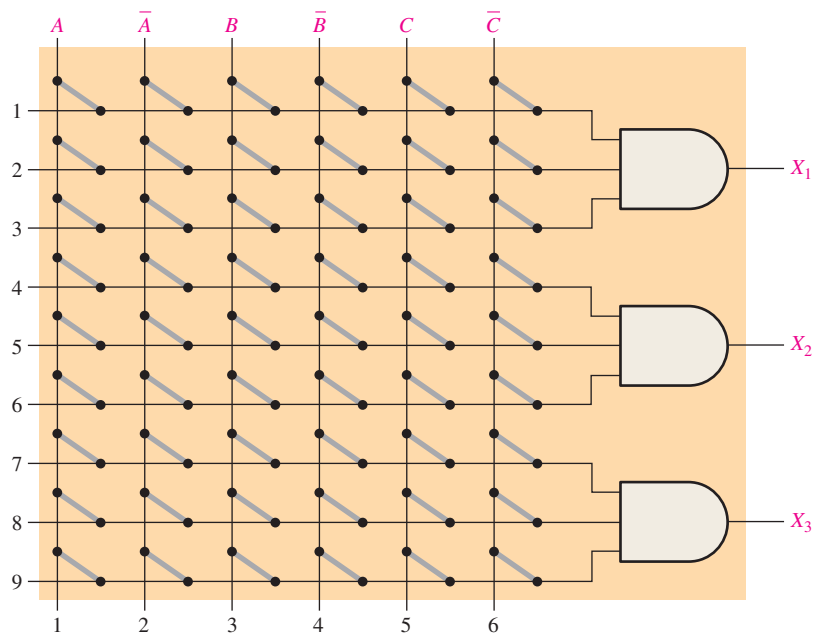

FIGURE 3-90
30. Determine by row and column number which fusible links must be blown in the programmable AND array of Figure 3-90 to implement each of the following product terms: